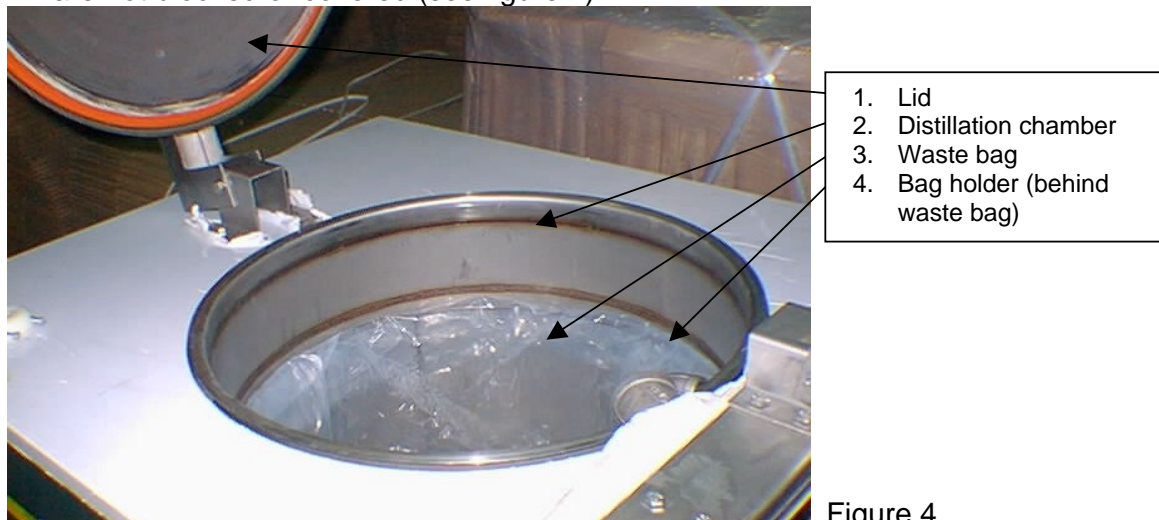

Figure 4
6. Make sure bag is under the vapor manifold, and waste intake valve making sure they are not blocked or covered (see figure 4).